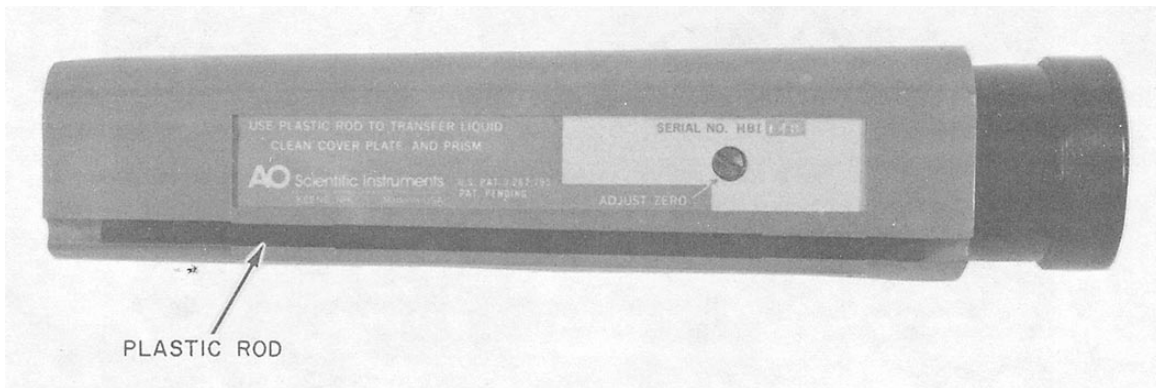

Figure 3-12.—Refractometer (side view).
8. Open the hinged plastic cover of the refractometer's window (fig. 3-11), make sure the window and cover are clean, and place several drops of water on it. Close the cover and look through the eyepiece. Observe the shadow line. Remove the black plastic rod from the bottom of the refractometer. Using the rod, adjust the setscrew (on the bottom of the refractometer) until the shadow line meets the zero line of the scale. See figures 3-12 and 3-13. By adjusting the set screw